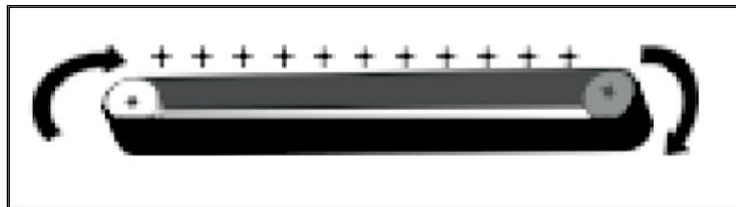

Fig. 4 The rubber belt acquires + charge as it rubs over the Teflon roller
Look at the inner workings of your handheld VDG shown in **Fig. 3**. There are two Teflon rollers – one on the bottom and one on the top. A rubber belt runs over the rollers. See **Fig. 4**. Electrical charges are separated at the point where the rubber belt and the bottom Teflon roller separate. The top roller is made of Teflon instead of metal, presumably to reduce cost. It does not participate in charge generation. As we learned from the triboelectric series, the Teflon roller at the bottom holds on to the electrons from the belt and becomes negatively charged, while the belt becomes positively charged as shown in **Fig. 4** and **Fig. 5**.
3. Turn off the handheld VDG and neutralize the electroscope again. Now, hold up the wire mesh screen about 5 cm in front of the electroscope. Make sure your fingers are in contact with the metal part of the screen. Then repeat step 2. See **Fig. 4**. How does the tube behave this time? What makes the difference and why? (Hint: Recall the activities on “charge by induction/polarization at the beginning of Activity 6”)